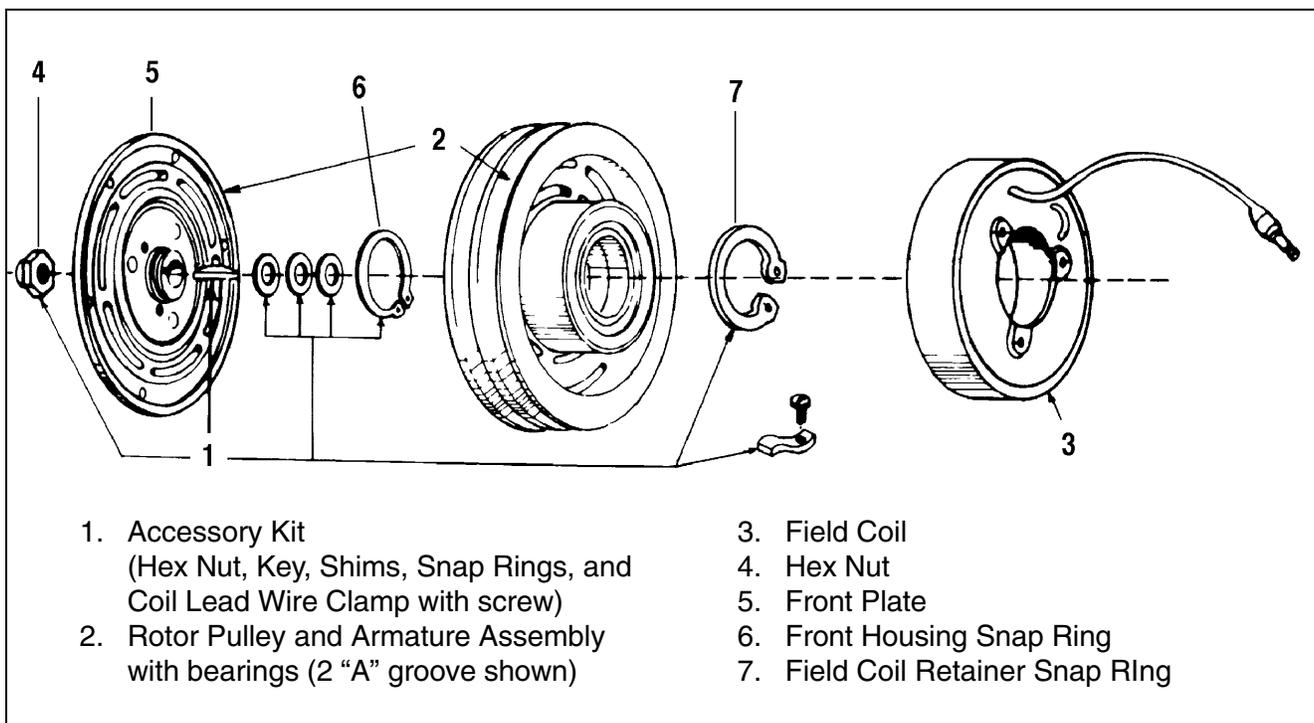

Figure 21-14. Sanden Magnetic Clutch
(1) Sanden Magnetic Clutch Removal ( ref. Figure 21-14 )
***THE USER IS RESPONSIBLE FOR REFERRING TO THE APPLICABLE VENDOR PUBLICATION(S) WHEN SERVICING OR INSPECTING VENDOR EQUIPMENT INSTALLED IN PIPER AIRCRAFT. (SEE INTRODUCTION, PAGE 4.)***
- (2) Sanden Magnetic Clutch Installation ( ref. Figure 21-14 )